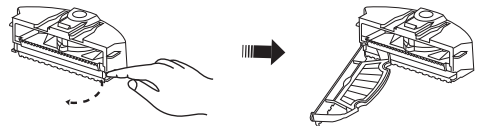
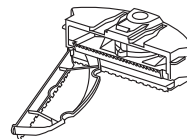

Figure 6
Figure 7
5. Open the dust filter bracket and the dust filter will slide open (Refer Fig 6). Take out the dust filter and then clean the dustbin in water (Refer Fig 7).